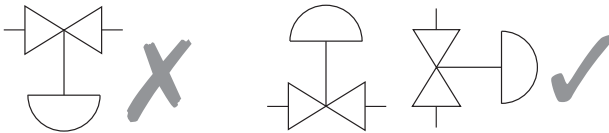

Fig. 3
- 3.5** Determine the correct installation situation and the direction of fluid flow. The valve should preferably be installed along a horizontal pipeline with the valve mounted above the pipe (see Figure 3). When mounting an actuator to the valve body, the actuator Installation and Maintenance Instructions must be followed.